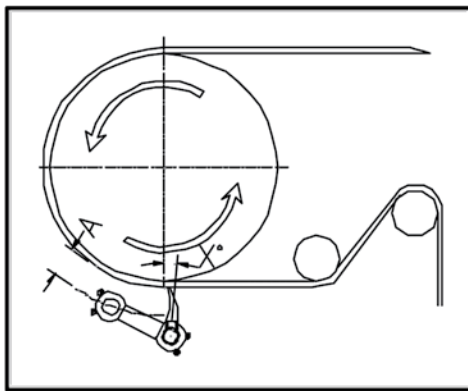

Fig. 3
Swing the cleaner frame up until it contacts the belt. Make sure that the blade contacts the belt and is mounted parallel with the face of the belt. Tighten the set screws in the pivot arms on the tensioner pipe. You may need to adjust the angle of the blade at this point. It should be angled in the direction of the belt travel (see fig. 3). After this has been done, you may complete the welding job on the hubs. Three (3) one inch (1”) welds spaced around the hubs are all that is needed.